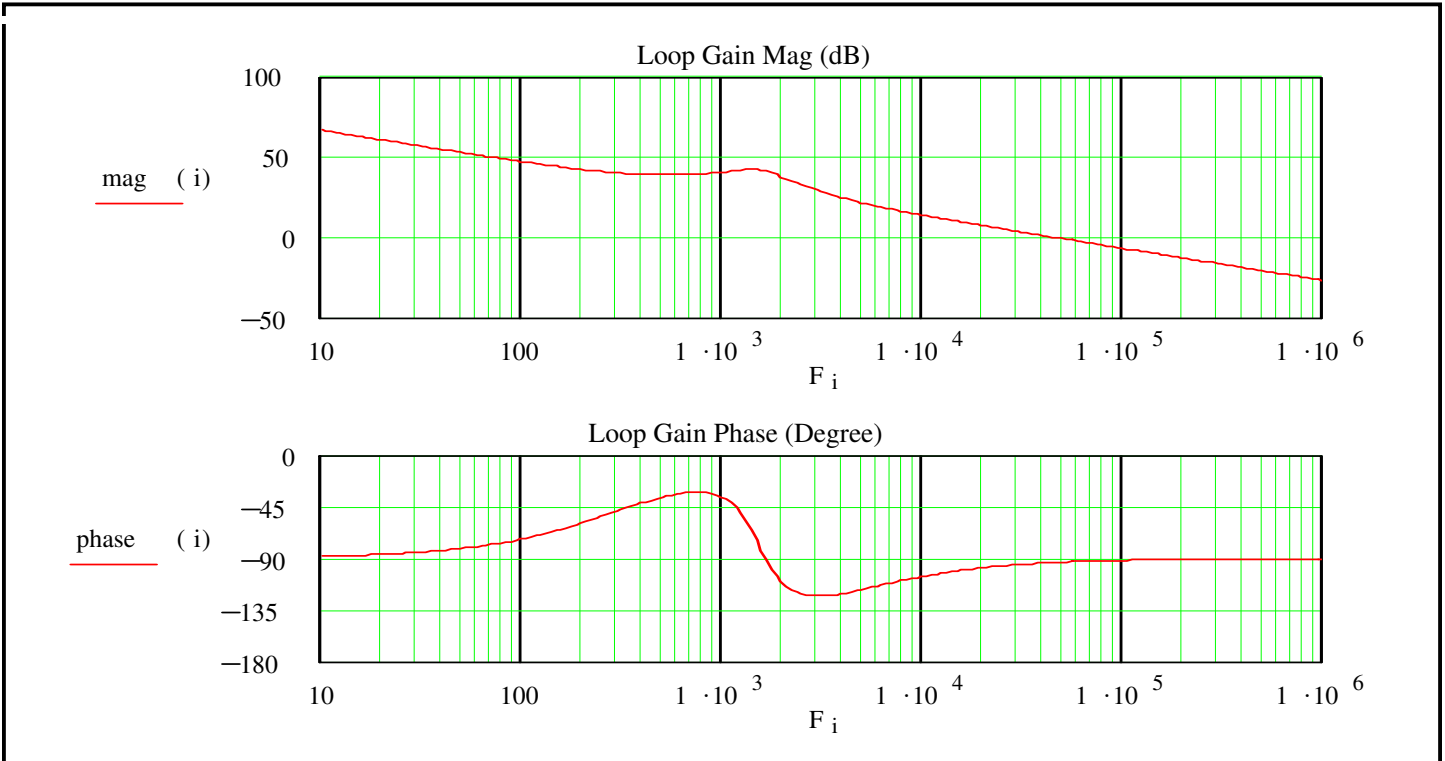

Fig. 2. Bode plot of the VDDQ Channel
Step 6. Generate Bode plot and check the phase margin. In this case, the phase margin is about 85° that ensures the loop stability. Fig. 2 shows the Bode plot of the loop.